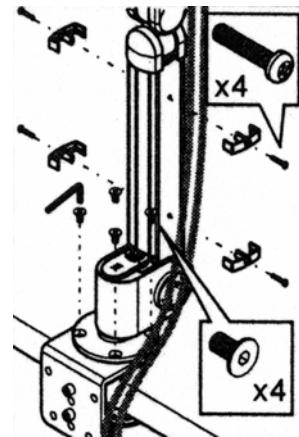

Figure 16: Mounting Arm Base to Clamp
- 8) Secure arm to the clamp with 4 flat head screws (Figure 16); tighten using the "L" shaped hex key.